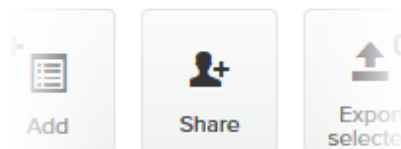

Figure 74. Plug-ins web page (Share button)
4. Click the **Share** button in the upper left-hand corner of the **Plug-ins** web page (Figure 74 \(page 160\)).